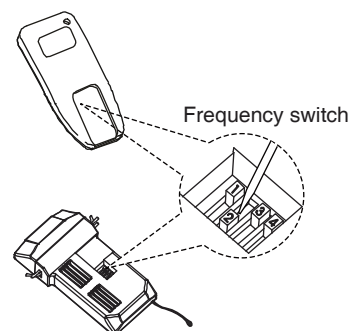

Fig. 7
1. This remote control unit is equipped with 16 code combinations to prevent possible interference from or to other remote units. The frequency switches on your receiver and transmitter have been preset at the factory. Please check to make sure the switches on the transmitter and the receiver are set to the same position. Any combination of settings will operate the fan as long as the transmitter and receiver are set to the same position. (Fig. 7)